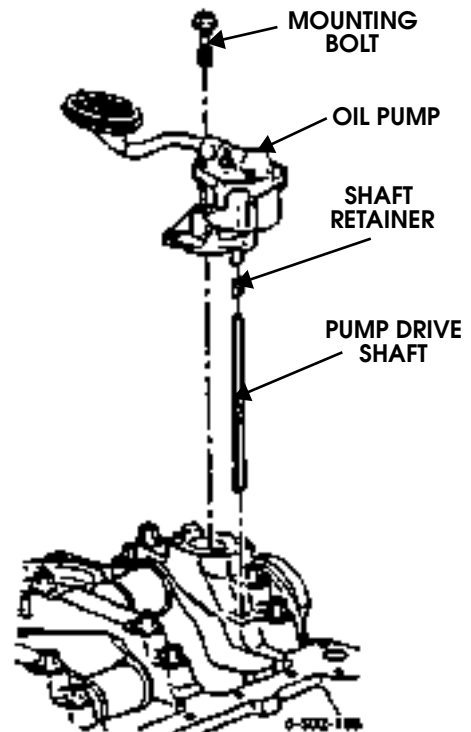

Figure 2-93: Oil Pump Removal/Installation
1. Remove nut from pump mounting stud (Figure 2-93).